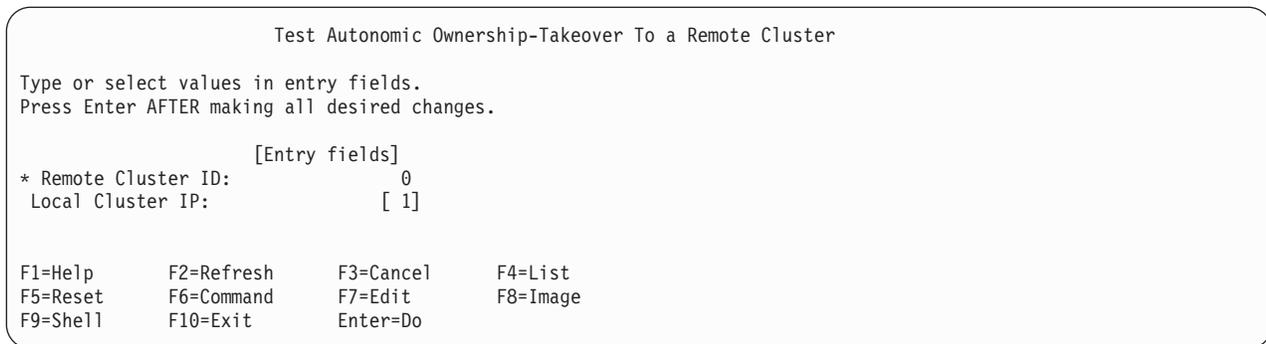

Figure 32. Testing AOTM Connectivity To Remote Cluster
2. Move the cursor to the desired cluster (VEA in this example), and press **Enter**. Figure 32 on page 28 displays.
3. Add information in the appropriate fields, depicted in Figure 32.